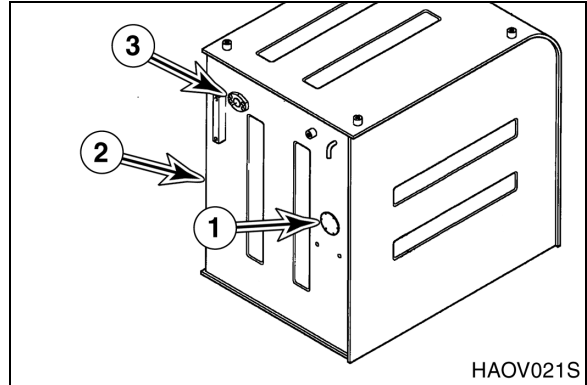

Figure 15
7. Connect wires as tagged to fuel sensor (1, Figure 15) on side of fuel tank (2).
8. If equipped, connect components to the fuel filler pump port (3, Figure 15) on side of fuel tank (2).